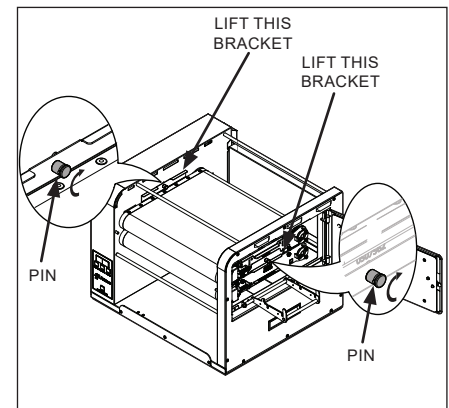

Figure 5. Rotate Pins and Lift Brackets
9. Rotate the pins shown in Figure 5.
10. Lift up on the two brackets shown in Figure 5.